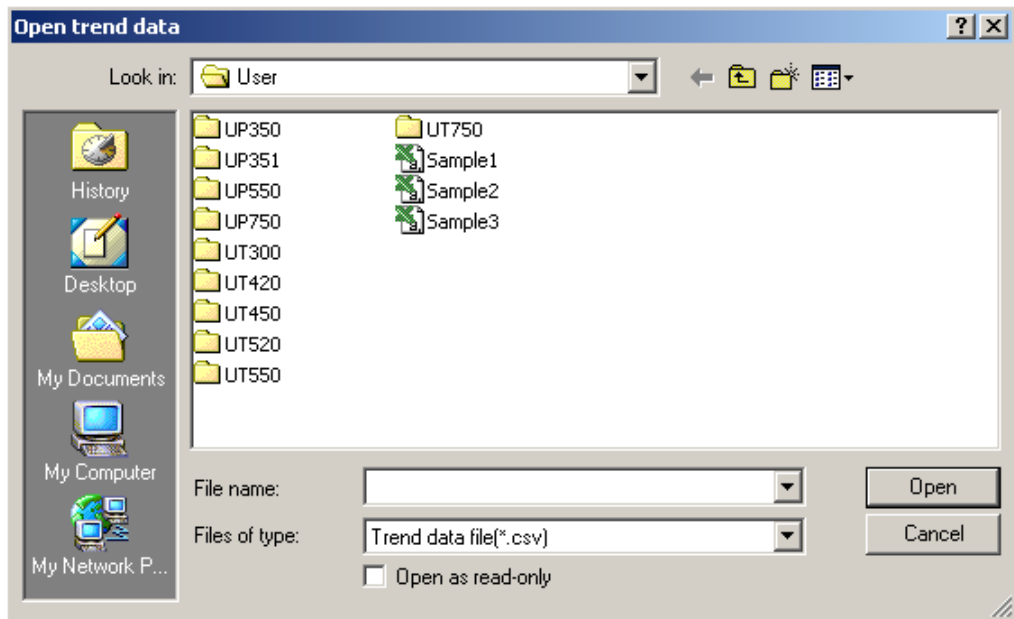

Figure 7.1.1 Open Trend Data Dialog Box
- (1) Select **Open trend data** in the Start Multi-monitor starting dialog box, or from the Menu bar, choose **File**, then **Open trend data** while the trend display is stopped
- (2) The Open Trend Data dialog box (Figure 7.1.1) appears.
- (3) Select a trend data file and click **Open**. The Trend Setup dialog box appears. See Section 4.2, "Setting Trend Display."
- (4) Select the trend data item to be displayed in the Multi-monitor display, scale and display color, and then click **OK**. The Multi-monitor display appears. See Section 5.5, "Operating Trend Display Function" for how to operate in the Multi-monitor display.